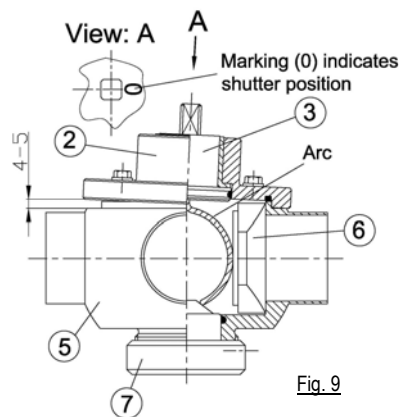

Fig. 9
- Insert bearing bush (9) into bearing cap (2).
- Insert O-rings (4), (8) and (10).
- Assemble pivoted axle with arc (3) and bearing cap (2). Pay attention to the marking (0) on the square pin of the pivoted axle (3) → indicates the shutter position (6) (see Figure 9).
- Insert shutter (6) into valve casing (5).
- Fit the pivoted axle with the arc (3) together with bearing cap (2) to the valve casing (5) as follows:
- The pivoted axle arc (3) is designed so that it exerts a defined pressure on the shutter (6) during assembly. On account of the preload characteristics, the bearing cap (2) projects approx. 4-5mm off the valve casing (5) on the opposite side of the shutter (see Figure 9).
- In order to prevent damage to the shutter (6) it must not be positioned against a valve outlet when installing it in the valve casing (5), but must point to the rear wall.
- Fasten the handle (1) in the desired position.